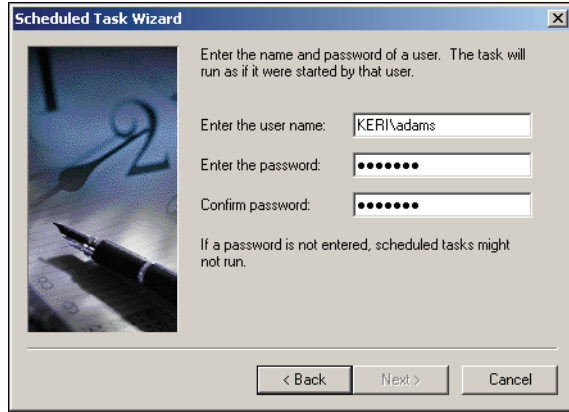

Figure 5-31: Enter Name and Password
12. Depending on the frequency selected, different windows will appear showing many different options. Select the various options for how the auto delete program should perform the deletion task. When all options have been selected, click on the **Next >** button until the User Name and Password window appears (see Figure 5-31 on page 34 of this section).